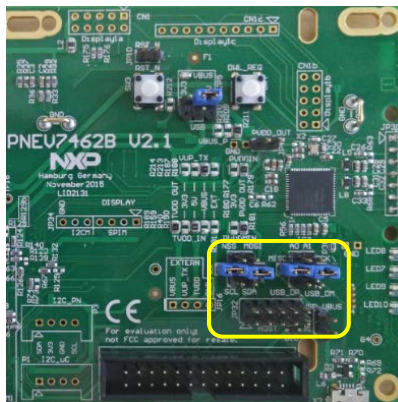

Fig 21. Host Interface selection - HSU
The yellow marked jumpers (Fig 21) needs to be set to select HSUART host interface. This will connect the UART_RX of the PN7462AU to the I/O P0(0), UART_TX of the PN7462AU to the I/O P0(1) of the LPCXpresso board extension m-bed connector.